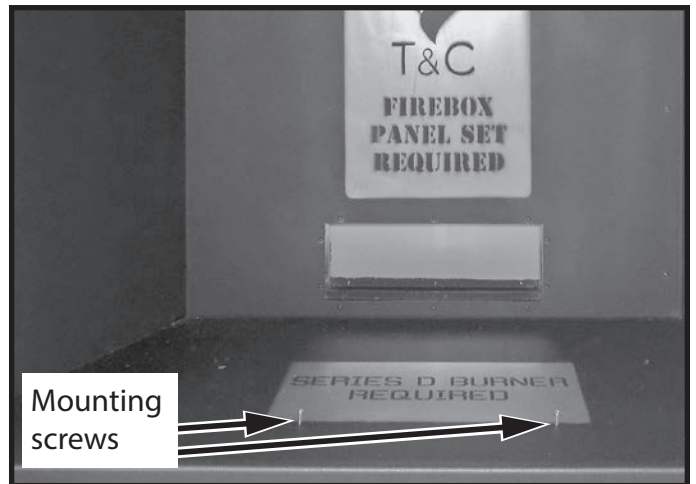

Figure 3: Lower burner mounting screws.
2. If installing burner into a new fireplace, place the lower burner onto the floor of the fireplace and secure the burner with the two mounting screws (Figure 3).